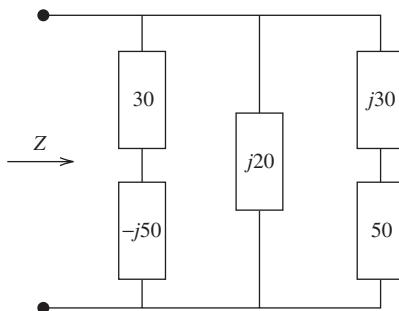

FIGURE P6.26 Circuit for Problem 6.26.
- 6.26 (A)** Find Z in Figure P6.26.